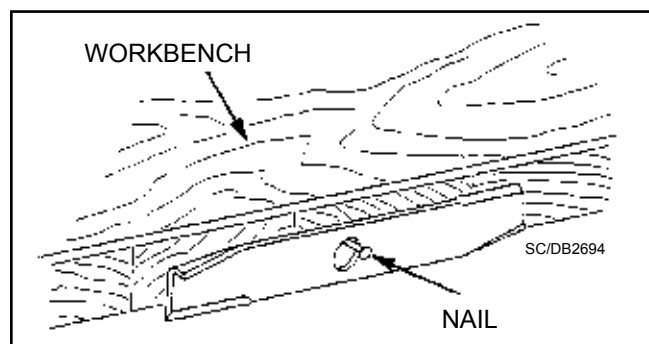

Figure 12. Blade Balancing
4. Sharpen both cutting edges equally to keep blade balanced. Balance blade using the method shown in Figure 12.
- When installing blade, the lift of the blade must be toward the spindle blade housing as shown in Figure 12. Torque bolt (1) into shaft assembly to 100 lbs-ft.